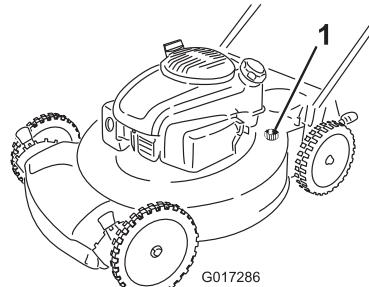

Figure 23
- Attach a garden hose that is connected to a water supply to the washout port on the machine housing (Figure 23).